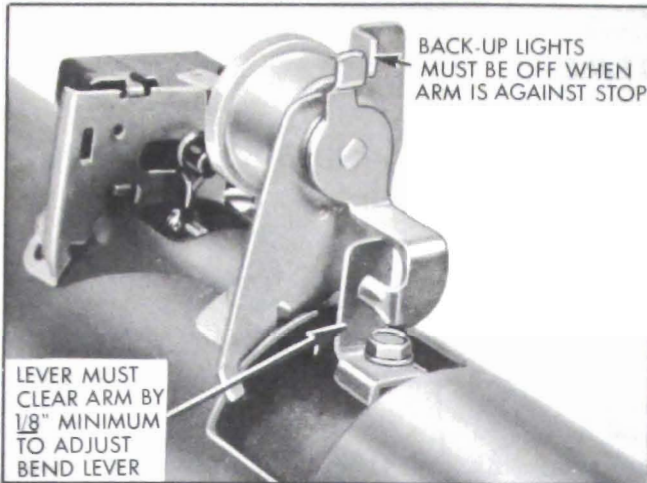

Figure 10-47—Back-up Light Switch - Second Gear
turned on only in reverse as the lever is not in position to pick up the switch arm when the shift is made to other gears. Figure 10-47 shows position of lever to switch arm when transmission is in second gear. A slotted switch mounting screw hole permits movement of the switch sideways on the mast jacket for proper locating. To adjust switch, proceed as follows:
3. If back-up lights are on in second gear, check position of operating lever to switch arm. There should be at least 1/8" clearance. If necessary bend lever. See Figure 10-47.
4. If back-up lights are on all the time, check to see if switch arm is against its stop when transmission is not in reverse. See Figure 10-47. If arm is against stop, try bending stop to reposition arm and turn lamps off.